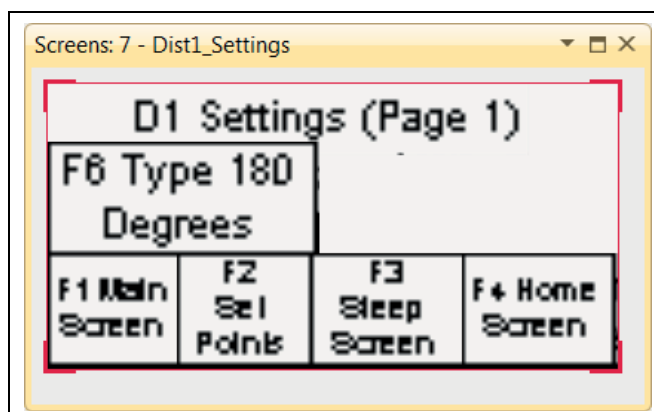

Figure 5G
7. After pressing the **F4 Return** key, the screen will appear again as in Figure 5G. Press the **F1 Main Screen** key.